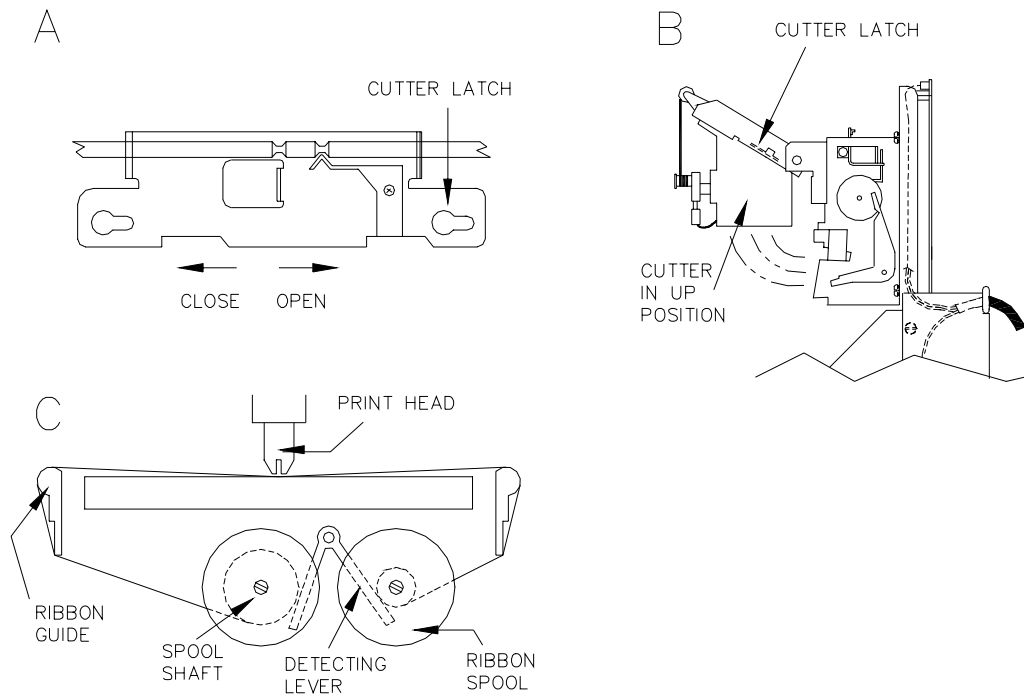

Figure 27-5. Ribbon Installation Sequence
2. Slide the cutter latch on the paper cutter unit to the right and swing the paper cutter up (Figure 27-5 A and B).
4. Pull one spool off of the shaft while pushing the ribbon detecting lever out of the way (Figure 27-5 C). Repeat for the other spool.
1. Place the ribbon spool onto the left shaft with the spool-driving pins pointing toward the printer (Figure 27-5 C).
5. Return the paper cutter unit to the normal position and slide the cutter latch to the left to lock (Figure 27-5 A).